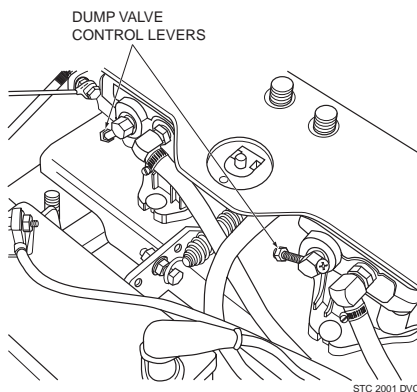

Figure 4-4. Dump Valve Control
1. To “free-wheel” or move the mower around without the engine running, rotate the dump valve levers counter-clockwise open. See Figure 4-4. Disengage the parking brake and move the mower by hand. When the machine is in the desired position, engage the parking brake and rotate the levers clockwise until they stop (closed). The dump valve levers must be returned to the CLOSED position and torqued to 10 lb-ft to drive the mower.